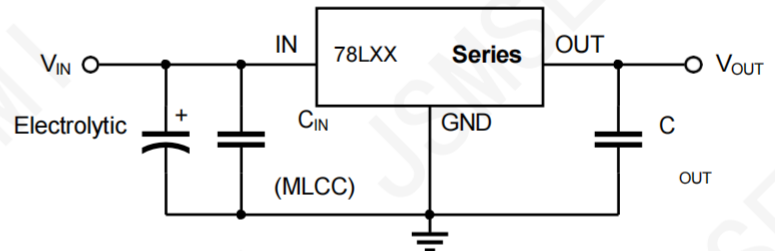

Figure 8-4. Electrolytic capacitor is used at IN
3. For the application circuit using the low ESR multilayer ceramic capacitor (MLCC) type input capacitor, the LC resonant voltage spike caused by hot plugging or power transmission line inductance can be suppressed by using RC suppression circuit for parallel connection of the input capacitor. A very simple method is to parallel a suitable electrolytic capacitor to the input capacitor. As shown in Figure 8-4. For most 100μF/25V electrolytic capacitor has an ESR of about 0.2Ω at 100kHz. This can completely suppress the overshoot phenomenon of the input and minimize the possibility of IC damage due to input voltage spikes.